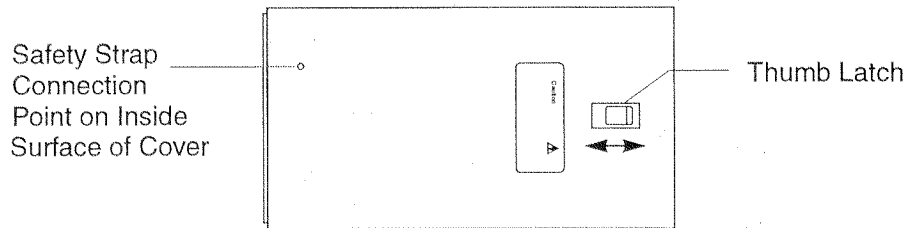

Figure 8.1. intellabeam Fixture Top Cover
Remove the top access door from the fixture by sliding the door thumb latch towards the rear of the fixture and then lifting the door off. The door is connected to the fixture by a safety strap. You can unclip the doors from the safety strap or leave them attached for this procedure. Refer to Figure 8.1.
1. Remove the bottom access door from the fixture by sliding the door thumb latch towards the rear of the fixture and then lifting the door off. The door is connected to the fixture by a safety strap. You can unclip the doors from the safety strap or leave them attached for this procedure. Refer to Figure 8.1.
4. Then, turn the fixture over and remove the bottom access door from the fixture by sliding the door thumb latch towards the rear of the fixture and then lifting the door off. The door is connected to the fixture by a safety strap. Unclip the doors from the safety strap and set aside. Refer to Figure 8.1.